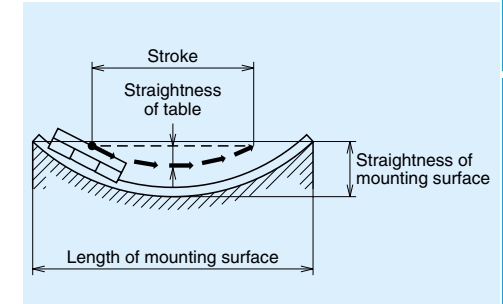

Fig. II-9-4
(1) Accuracy of the mounting base of machine
- However, when two or more ball slides are assembled to each rail, the table stroke becomes shorter than the mounting surface. This, along with the fact that the mounting error is evenly spread, contributes to a higher table accuracy than the mounting face accuracy, reducing the error to about 1/3 in average (Fig. II-9-4).